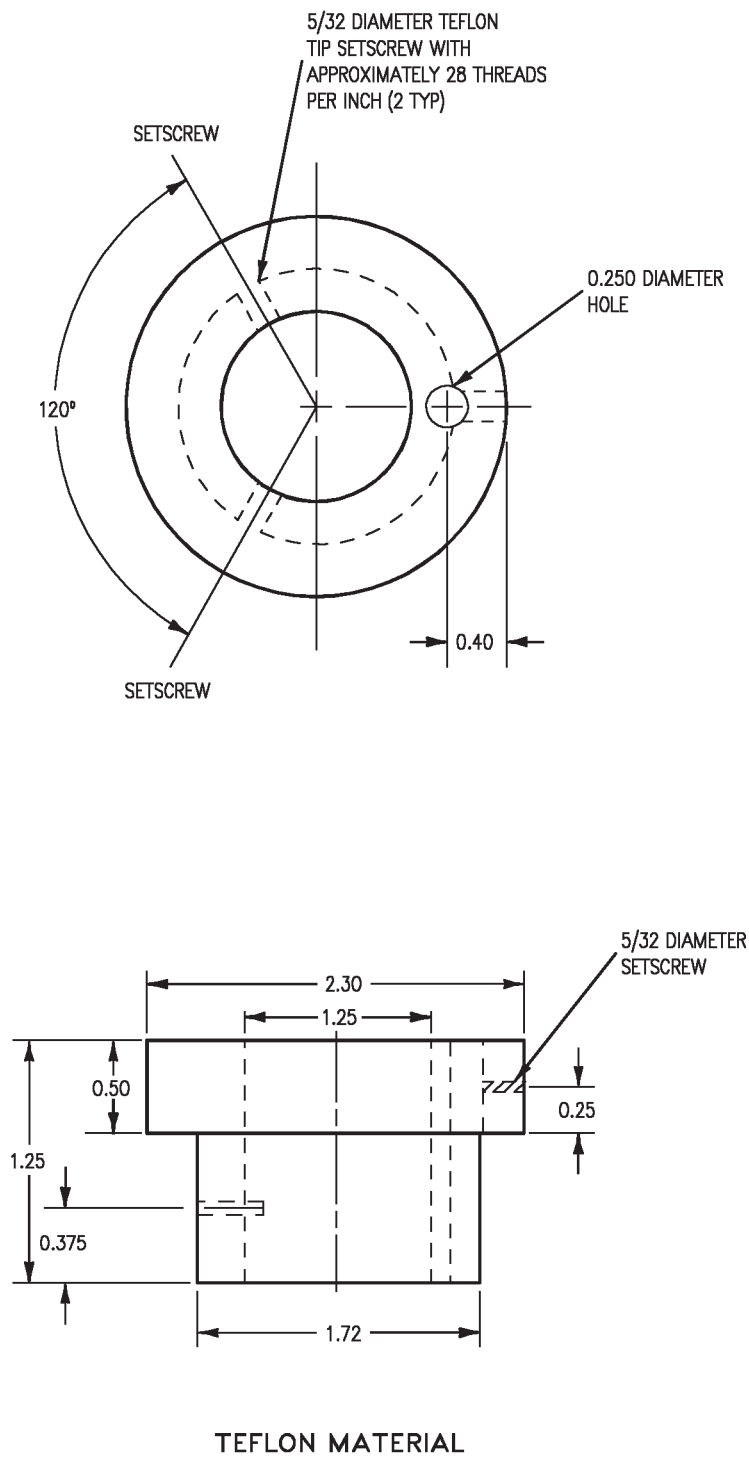
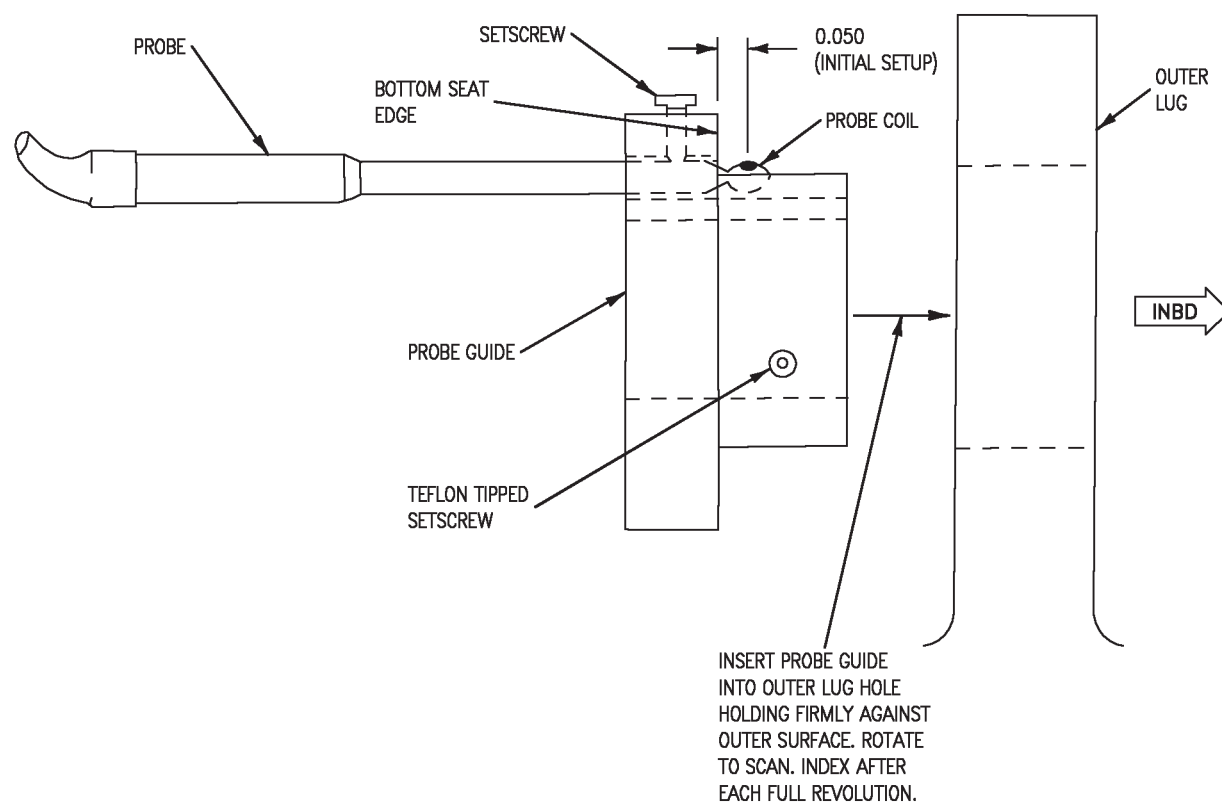

Figure 2. Servocylinder Outer Attach Lug Fitting Eddy Current Probe Guide
Figure 3. Eddy Current Probe and Probe Guide Adjustment, Setup, and Inspection
(1) Use 64101.1/4 bolt hole probe.
(2) Standardize using 1/4 inch diameter hole with 0.060 inch notch of the notch aluminum, reference standard.
(3) Insert eddy current probe into probe guide, see figure 2, directing probe coil outward with approximately 0.050 from coil center to bottom seat edge, see figure 3.
(1) Position 64101.1/4 bolt hole probe and probe guide in outboard attach lug fitting hole, see figure 3.
(2) Use BALANCE to set meter needle to 250 microamperes.
(3) Rotate probe in probe guide until maximum meter reading is received and use BALANCE to return meter needle to 250 microamperes.
(4) Slowly rotate probe guide at least one full revolution to scan hole surface. Make sure probe is firmly secured in probe guide and does not move during scanning.
(5) Index probe by extending distance of probe coil center to bottom seat edge 0.050 inch each scan.
(6) Repeat substeps (1) through (5) until all surface of outer attach lug hole has been inspected.